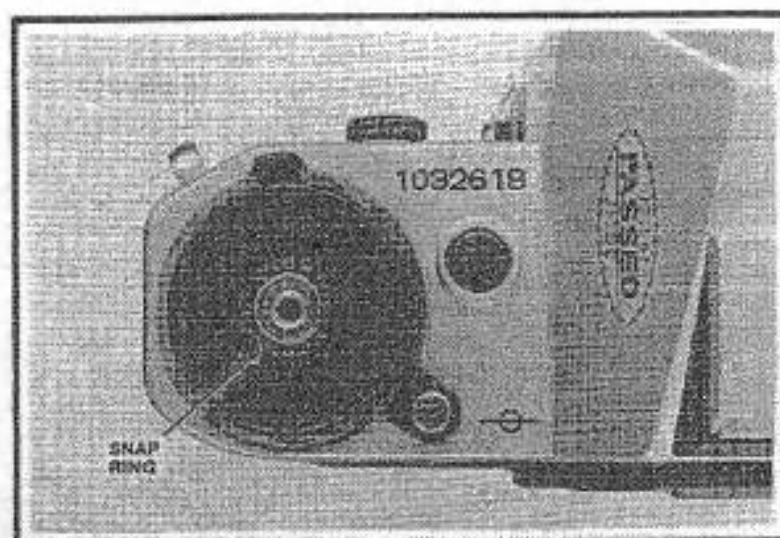

Figure 7
- Set ASA 100. Remove the film-speed dial by taking off its snap ring, Fig. 7. Note that the film-speed dial is in two sections with a wave washer between the dial and the dial cover. Be careful to avoid turning the film-speed wiper, Fig. 8. You can then note the position of the film-speed wiper at ASA 100, the setting for exposure adjustments.